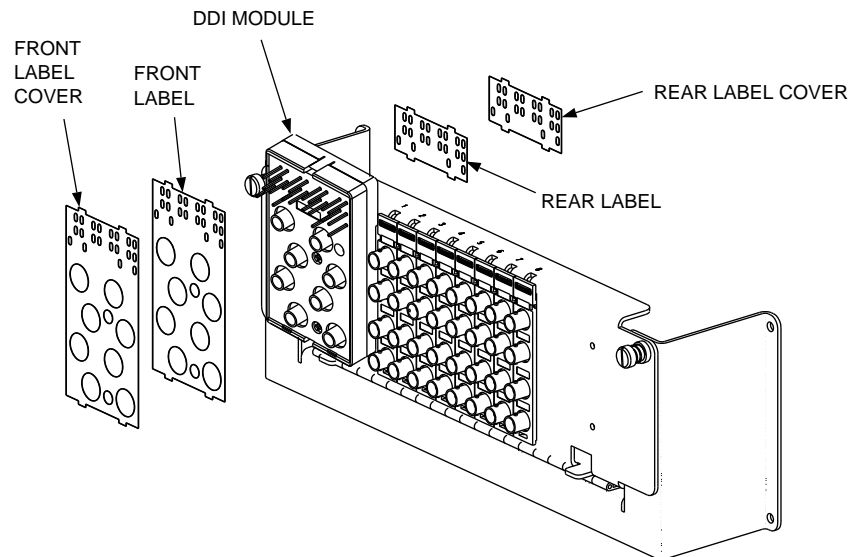

Figure 6. Installing DDI Module Labels and Label Covers
3. Install the labels first on the block for the left side of the panel. Place the front and rear labels into the recessed area of the DDI connecting block, over the BNC connectors and wire-wrap pins, as shown in Figure 6.